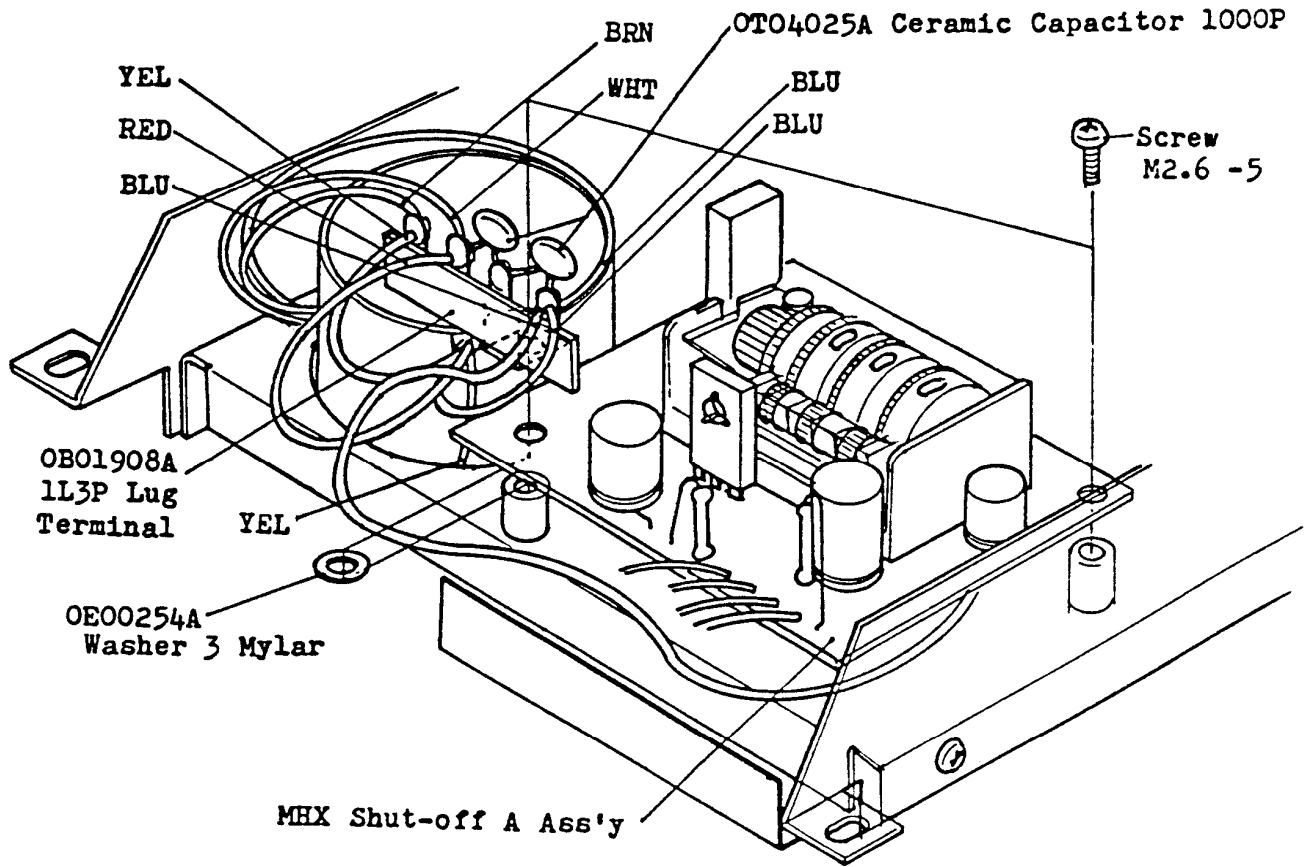

Fig.7
Connect the motor signal wires referring to Fig.7, 8 and 10.
(2) Assemble the lug terminal and ceramic capacitors, referring to Fig.7 and 10.